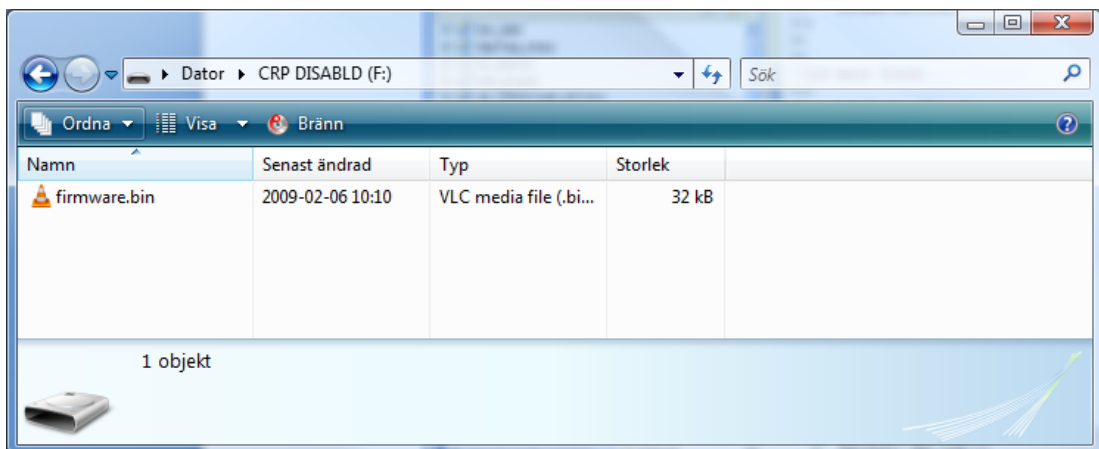

Figure 8 – Mass Storage Device
6. Press down the bootload push-button (SW2) and then press and release the reset push-button (SW1) on the *LPC1343 QuickStart Board*. A storage device named CRP DISABLED will now appear on your computer, see *Figure 8*.